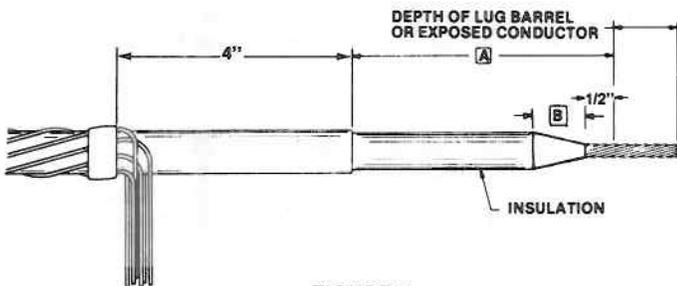

FIGURE 2
3. Prepare cable according to Figure 2 and Table II.